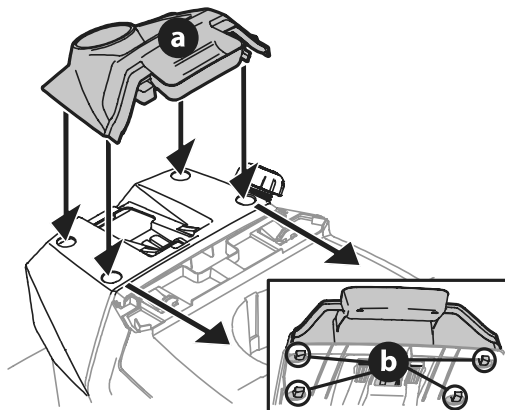

Figure 13
To install the dash cap (a), line up the tabs (b) on the dash cap (a) with the holes in the upper dash (Figure 13). Slide the tabs (b) into the holes in the upper dash and push forward on the dash cap to lock into place.
**NOTE:** Be sure to press on the lower part of the dash cap (a) facing the operator position to ensure the lower tabs on the dash cap are in place (Figure 13).